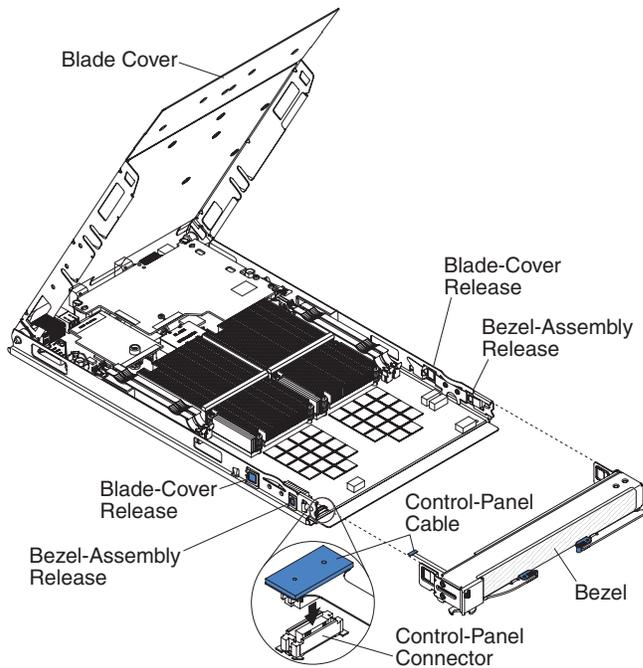

Figure 23. Reinstalling the front bezel assembly
3. Carefully slide the front bezel assembly onto the blade server, as shown in Figure 23, until it clicks into place.